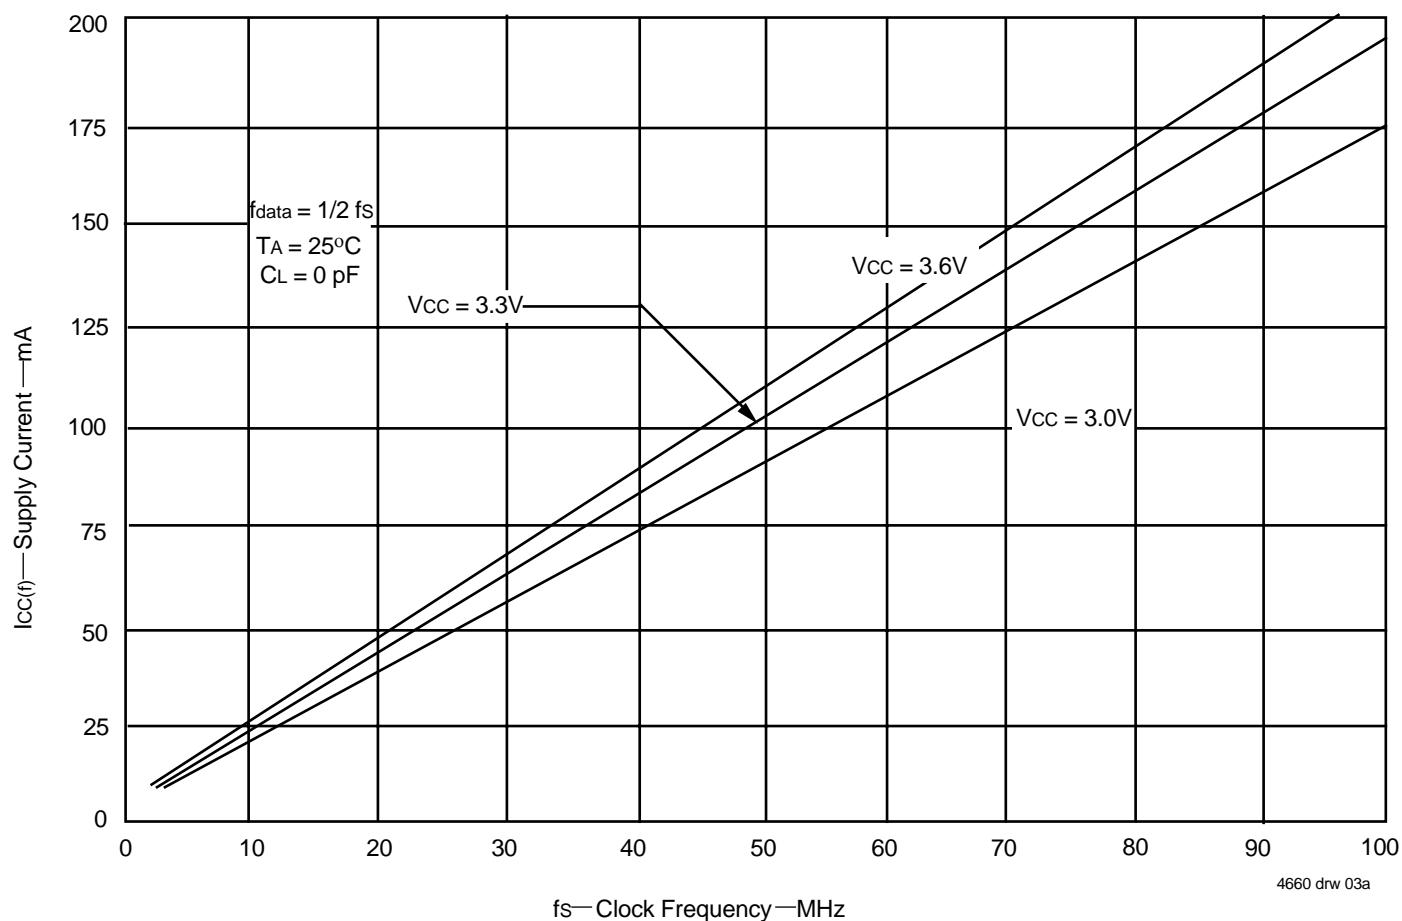

Figure 1. Typical Characteristics: Supply Current (I_{CC}) vs. Clock Frequency (f_s)
3. For additional I_{CC} information, see Figure 1, *Typical Characteristics: Supply Current (I_{CC}) vs. Clock Frequency (f_s)*.
The $I_{CC(f)}$ current for the graph in Figure 1 was taken while simultaneously reading and writing a FIFO on the IDT72V3622/72V3632/72V3642 with CLKA and CLKB set to f_s . All data inputs and data outputs change state during each clock cycle to consume the highest supply current. Data outputs were disconnected to normalize the graph to a zero capacitance load. Once the capacitance load per data-output channel and the number of these device's inputs driven by TTL HIGH levels are known, the power dissipation can be calculated with the equation below.
With $I_{CC(f)}$ taken from Figure 1, the maximum power dissipation (P_T) of these FIFOs may be calculated by: